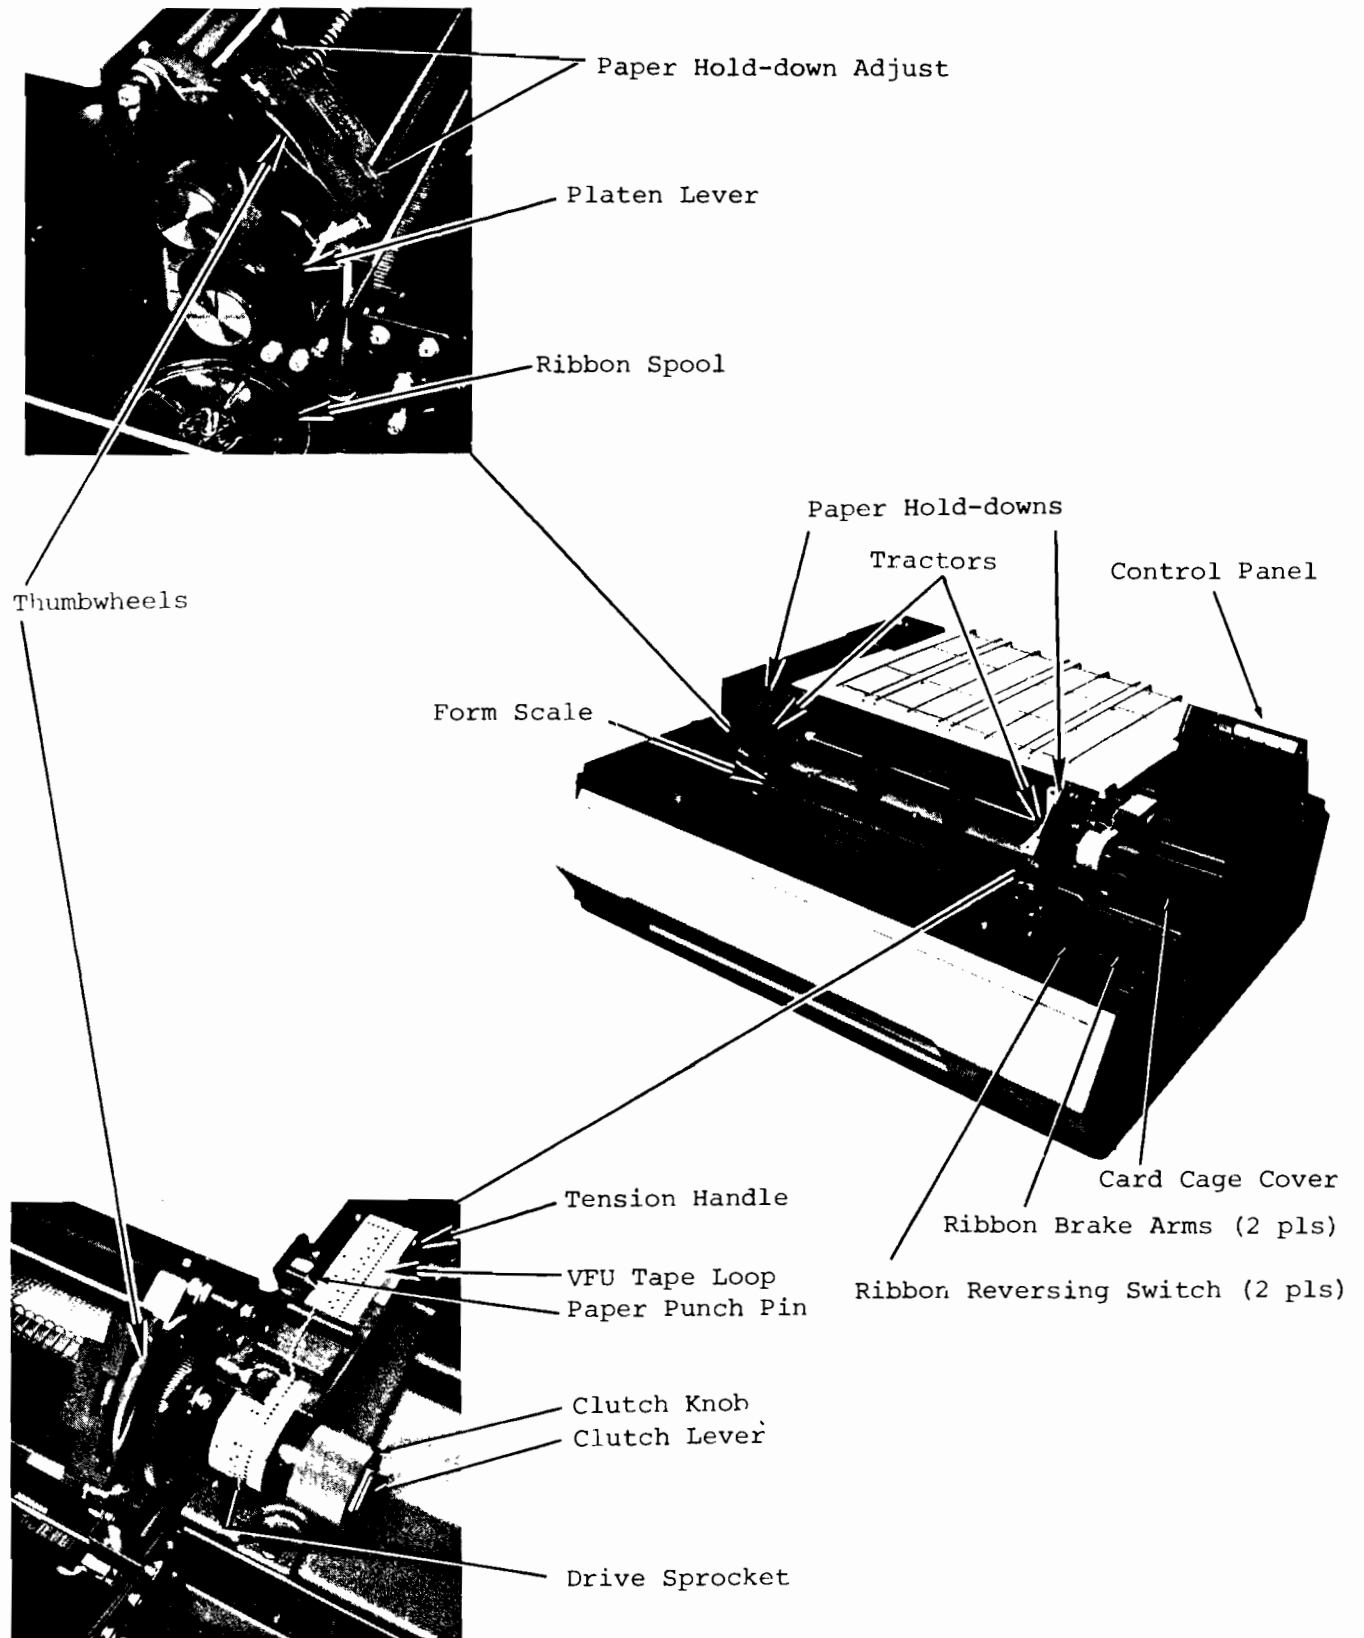

Figure 2-2. Printer Controls Location
After the unit is installed and interface connections completed, visually inspect the installation. Ensure that the power source is adequate and all cables are properly anchored. Perform the following procedures to ensure proper operation of the unit (refer to figure 2-2):
- p. Adjust paper hold-downs (figure 2-2) to just touch paper with six-part paper installed. Paper hold-downs should not touch the paper when single part paper is installed.